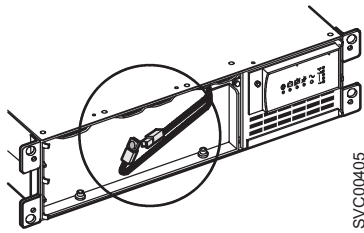

Figure 277. The 2145 UPS internal battery connector with protective tape
- a. Remove the protective tape from the internal battery connector (shown in Figure 277 on page 278).